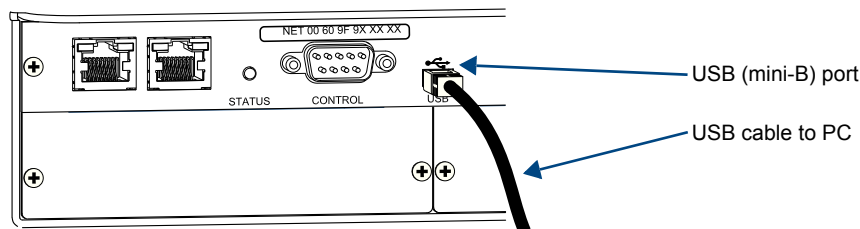

FIG. 37 USB cable connected to USB port on Enova DGX 32 and to PC
3. Connect the enclosure to a PC running Windows with USB cable (FIG. 37).